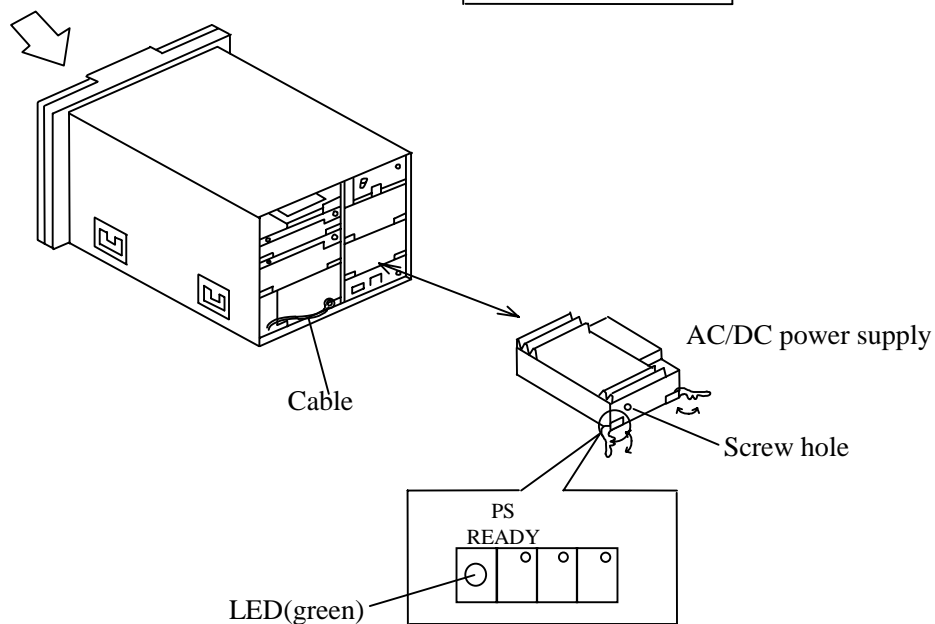

Figure 4.6.4 Setting AC/DC power supply
- (2) Setting AC/DC power supply (See Figure 4.6.4) [Type DF300-RKWH is non]